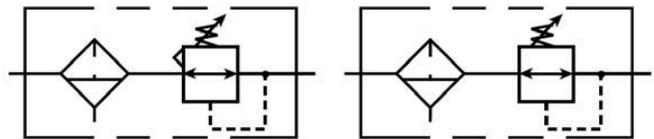

Figure 3.2 - Filter/Regulator Components
Servicing Filter Element - (Refer to Figure 3.2)
Servicing Regulator - (Refer to Figure 3.2)
9. Install Diaphragm Assembly into Body Assembly. Assemble Bonnet Assembly onto Body and tighten per Figure 3.2.